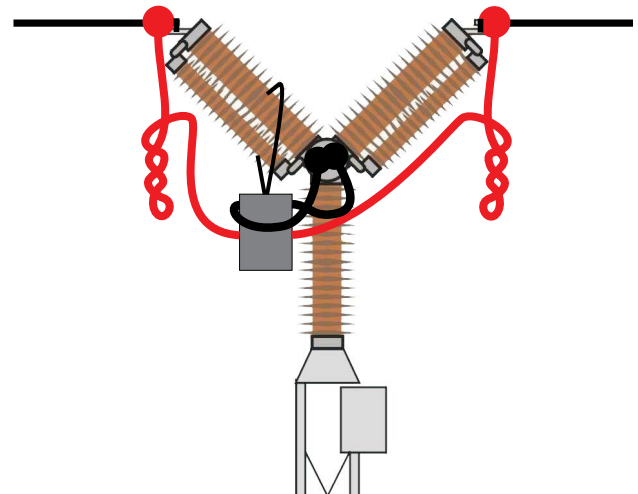

Fig. 6.2.2 By twisting the current cables you can reduce disturbances by minimizing the magnetic window created by the cable loops and the interrupter.
- 4] By twisting the cables as shown in figure 6.2.2 you can reduce disturbances by minimizing the magnetic window created by the cable loops and the interrupter.